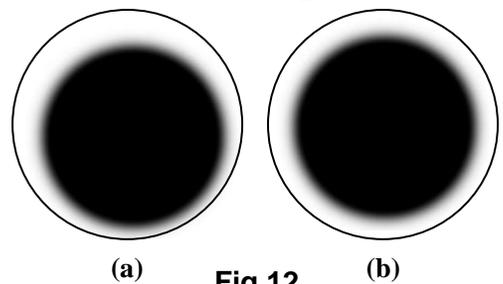

Fig.12
- Turn the condenser focus knob to lower the condenser till a dark spot showed in the viewing field as shown in **Fig. 12 (a)**.
- Turn the condenser translational centering screws to move the dark spot to the center as shown in **Fig. 12 (b)**.